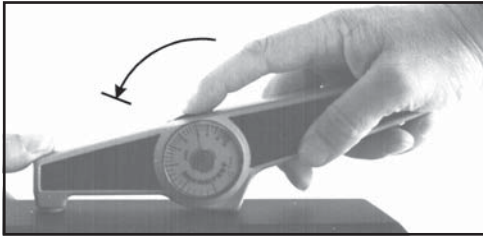

figure 1
- b. Turn the scale wheel forward to the stop (see figure 1)